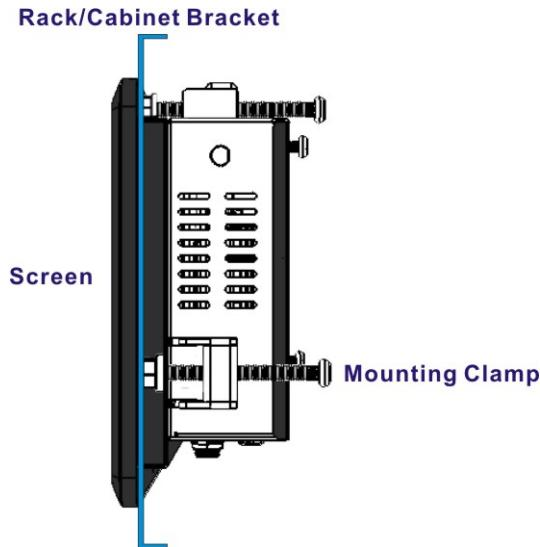

Figure 3-15: Secure the Rack/Cabinet Bracket
Step 2: Insert the mounting clamps into the mounting brackets and pre-formed holes along the edges of the PPC-F06B-BT, behind the aluminum frame (**Figure 3-15**). There are a total of four mounting clamps required.
Step 3: Tighten the screws that pass through the mounting clamps until the plastic caps at the front of all the screws are firmly secured to the bracket (**Figure 3-15**).